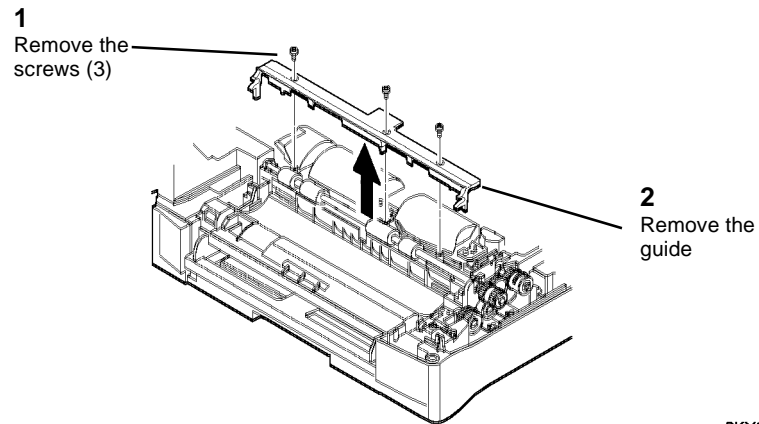

Figure 1 Removing the Upper Front Paper Guide
2. (Figure 1): Remove the Upper Front Paper Guide.